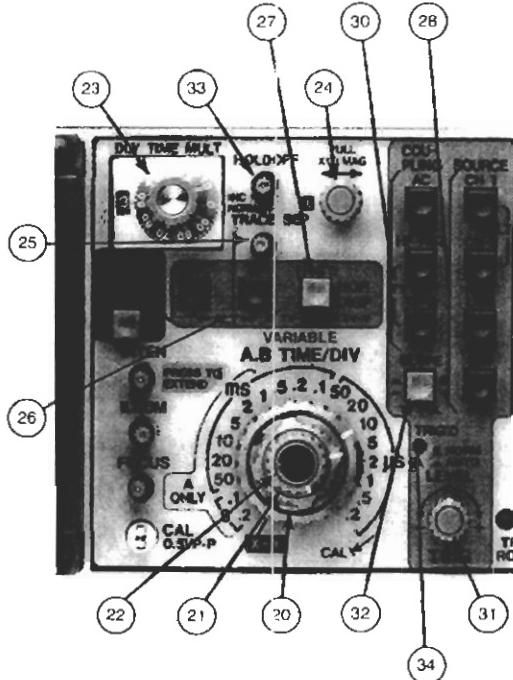
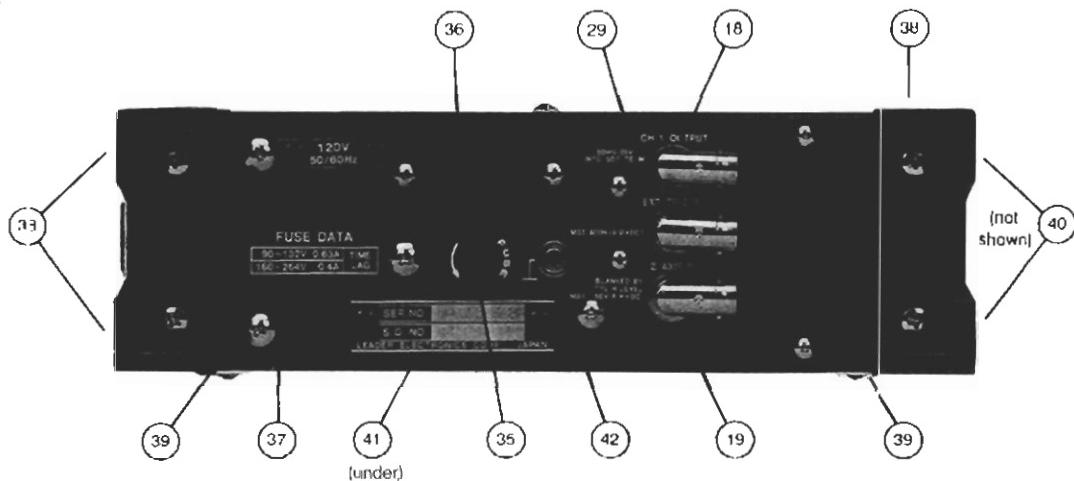

Figure 2-3. Sweep and trigger block
Figure 2-4. Rear panel and case features
Refer to Figure 2-3 for references (20) to (28) and (30) to (34), and to Figure 2-4 for reference (29).
(20) A TIME/DIV switch	To select either the calibrated sweep rate of the main (A) timebase, the delay time range for delayed-sweep operation, or X-Y operation.	ALT sweep is selected by simultaneously pressing both A and B pushbuttons. This displays A- and B-timebase traces, with the section of the A-timebase trace corresponding to the B trace intensified. The location of the intensified section is determined by the DLY TIME MULT control and TRIG'D switch settings.
(21) B TIME/DIV switch	To select the calibrated sweep rate of the delayed (B) timebase.
(22) Time VARIABLE control	Provides continuously-variable adjustment of sweep rate between steps of the A TIME/DIV switch. TIME/DIV calibrations are accurate only when the Time VARIABLE control is click-stopped fully clockwise.
(23) DLY TIME MULT control	To determine the exact starting point within the A timebase delay range at which the B timebase will begin sweeping. The absolute delay time is equal to the sweep time rate (A TIME/DIV) multiplied by the DLY TIME MULT setting.	When released, the B sweep begins immediately after the delay time, as determined by the A TIME/DIV switch and DLY TIME MULT control.
(24) Horizontal or X Position control	To adjust the horizontal position of the traces displayed on the CRT. Clockwise rotation moves the trace(s) to the right. During X-Y operation, this control must be used for X-axis positioning.	When pressed in, the B sweep is triggered by the first trigger pulse occurring after the delay time. The effective delay time is adjustable only in whole increments of the time between trigger pulses. Moreover, if TV-V trigger coupling is selected for the A timebase, TV-H trigger coupling is automatically inserted in the B-timebase trigger circuits.
Refer to Figure 2-4 for references (35) to (42) and (19).